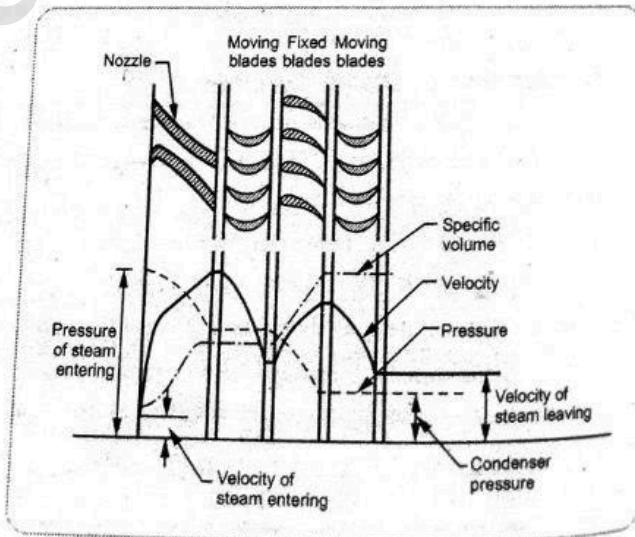

Fig. 4.8 : Pressure compounded steam turbine
- Fig. 4.8 shows the pressure compounding arrangement in which pressure of steam decreases gradually over the set of nozzles and blades.